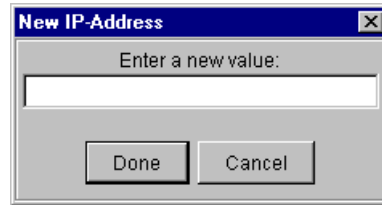

Figure 4-4. Add new value dialog box
1. Click the Add button to the right of the parameter text box. The New *parameter* dialog box opens (Figure 4-4).